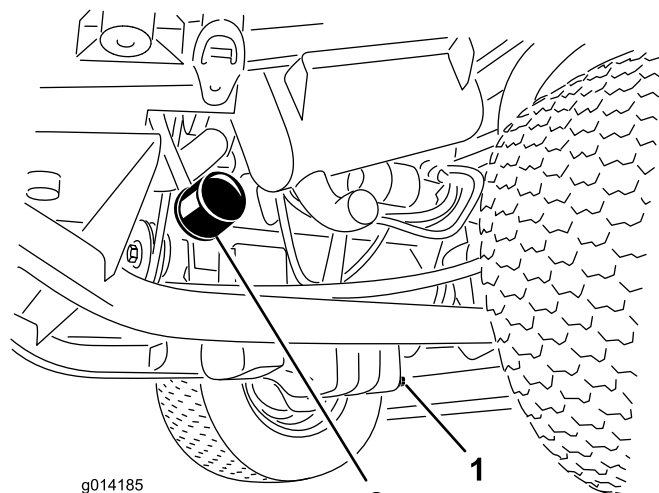

Figure 34
1. Remove the drain plug (Figure 34) and let the oil flow into a drain pan.
3. Remove the oil filter (Figure 34).